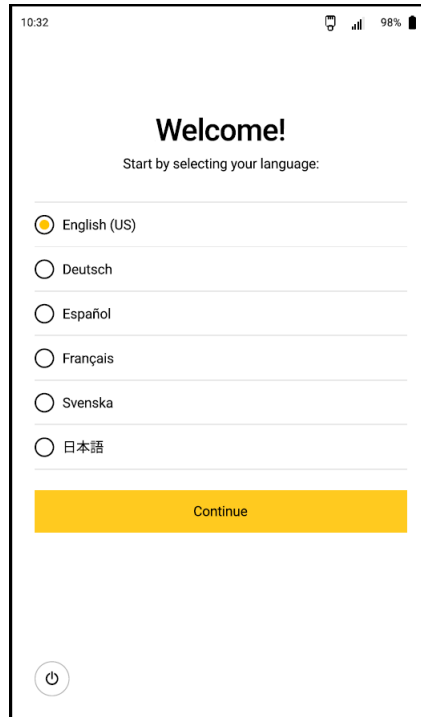

Fig. 06
1. When starting up for the first time, select a display language. (Fig. 06)